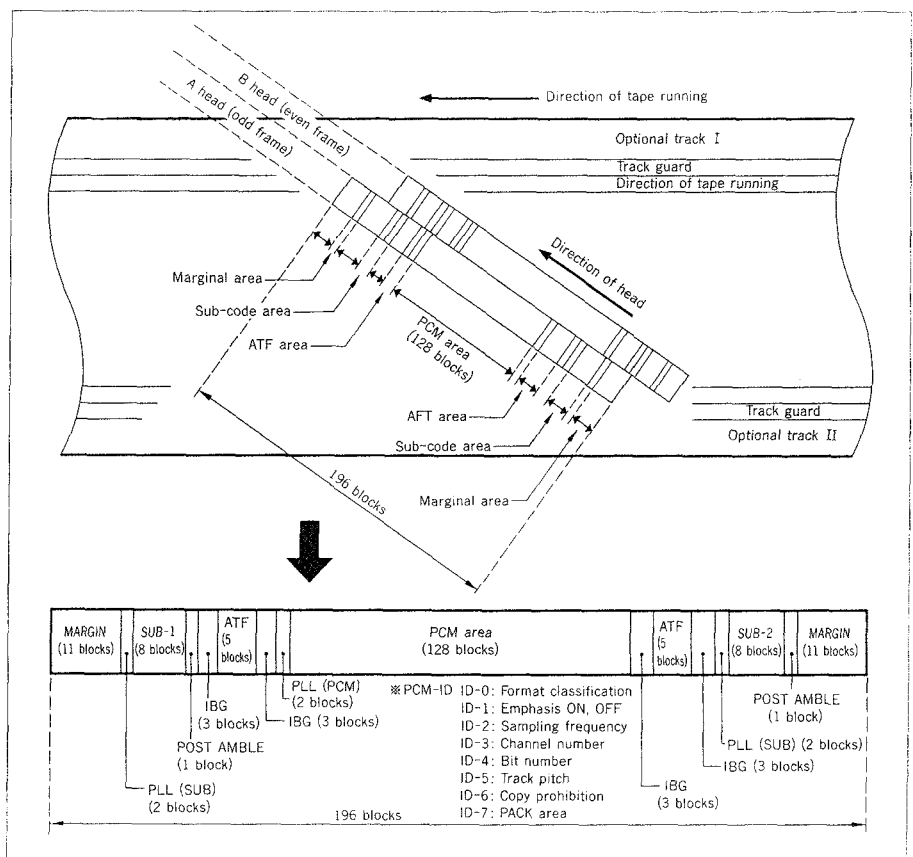

Fig. 4: Method of data recording
- As shown in Fig. 4, the DAT signal format makes it possible to record the pulse code modulation identification code (PCM-ID), that controls the tape, in the PCM region, where the music signal (or other signal that the user wishes to record on the tape) is recorded.